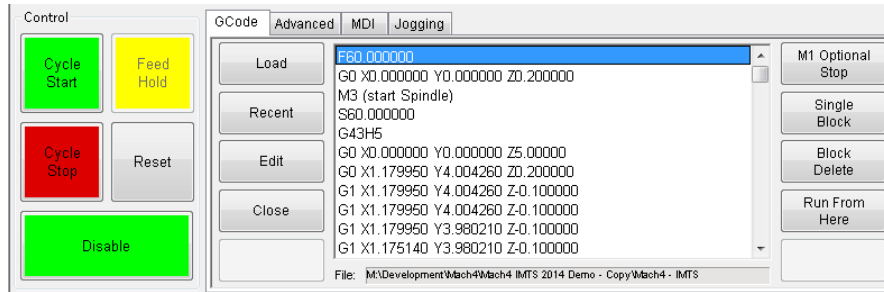

FIGURE 6 - G-CODE CONTROLS
1. Press the **[Load]** button (Figure 6) then select a G-Code file and press **[Open]**
5. Press **[Cycle Start]** to run the program (Figure 6)
6. If it is necessary to stop in the middle of a program to inspect the part press **[Feed Hold]** (Figure 6)
7. If it is necessary to end a program before it has completely run press **[Cycle Stop]** (Figure 6)
1. Click the **[Single Block]** button (Figure 6)
2. Press **[Cycle Start]** button to begin the file (Figure 6)
The Block Delete option (Figure 6) allows for specially marked lines to be ignored when running a G-Code file. Consider the following:
1. Use the Up/Down arrows in the G-Code file window to select the line to start from (Figure 6)
2. Press the **[Run From Here]** button (Figure 6)
7. Press **[Cycle Start]** to begin the file at selected starting line (Figure 6)